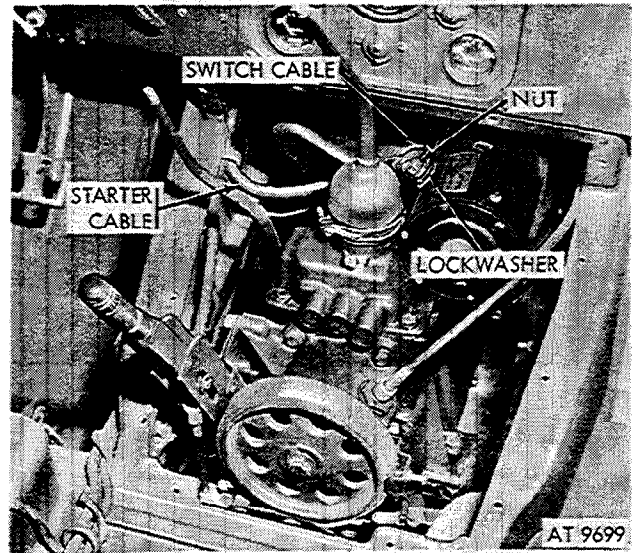

Figure 2-238. Remove transmission tunnel cover and remove cables from starter.
(24) Remove transmission tunnel cover and remove nut and lockwasher securing starter cable and fuel pump safety switch (oil pressure safety switch) cable to starter. Remove cables from starter terminal (fig. 2-238).